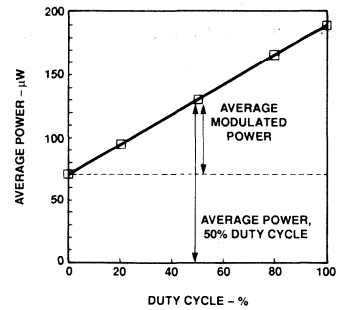

Figure 4. Average Modulated Power.
- To allow the LED to switch at high speeds, the recommended drive circuit never switches the LED fully off; the light output power is modulated between two non-zero power levels. The modulated (useful) power is the difference between the high and low level of light output power (transmitted) or input power (received), which can be measured with an average power meter as a function of duty cycle (see Figure 4). *Average modulated power* is defined as one half the slope of the average power versus duty cycle: